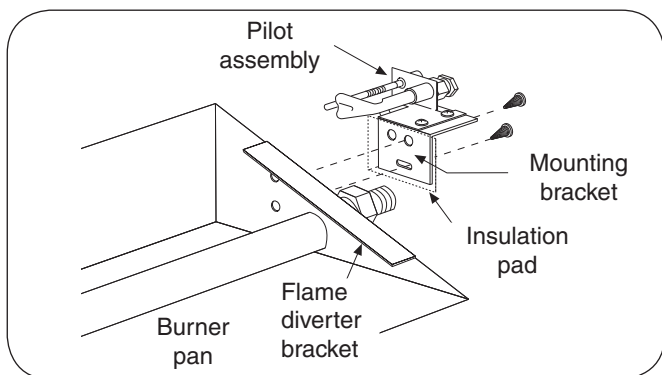

Fig. 4-2
- a. Attach the pilot assembly mounting bracket (Item 8) to the pilot assembly (Item 4) with #10 screws (Item 7) (Fig. 4-2 - Note: bracket, insulation pad and pilot assembly are shown attached).